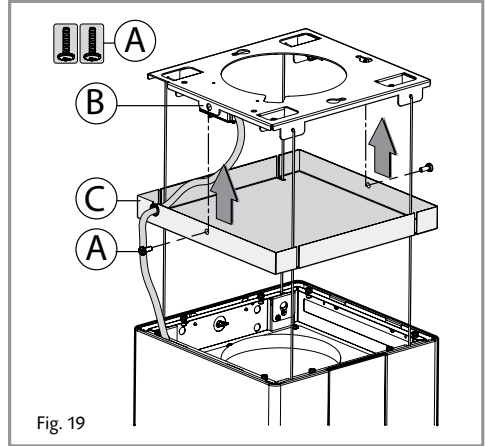

Fig. 19
11. Fit the fixing support cover panel (C) and secure with the two supplied screws (A), as shown in Fig 19.